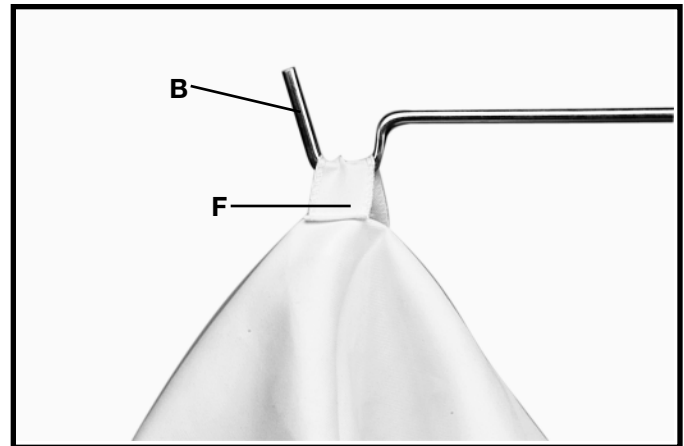

Fig. 14
| 5. Upper bag (bag with loop see Fig. 14) | 14. 5/16-18 Hex nut (9) |
2. Hook the loop on the top of filter bag (F) Fig. 14, onto the end of support rod (B).